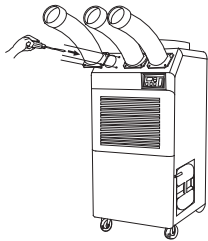

Figure 18
3. Use screws (enclosed inside of box with cool air outlet hose(s)) to install the cool air outlet hose(s) on the air conditioner as shown in Figure 18.